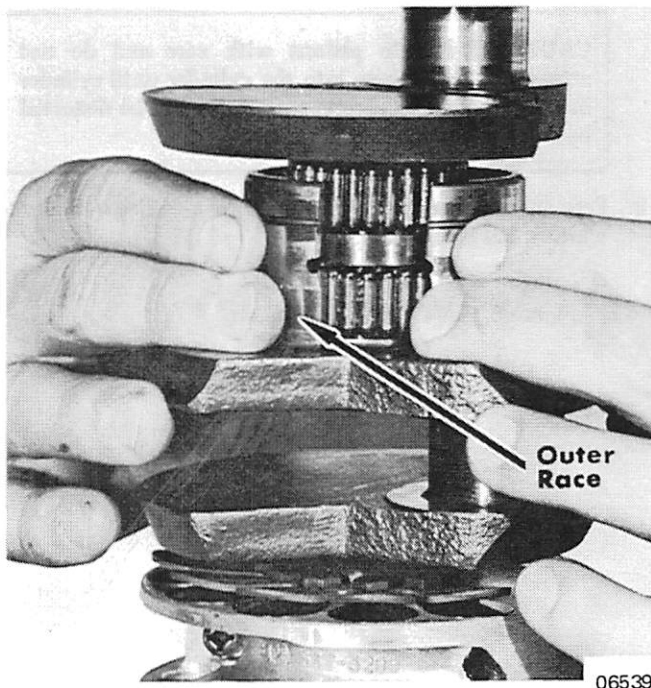

Figure 2. Installing Center Main Roller Bearings and Outer Race
2. Install bearings, bearing cage and snap ring onto crankshaft. Refer to parts list to make sure of number of bearings. (Figure 2)